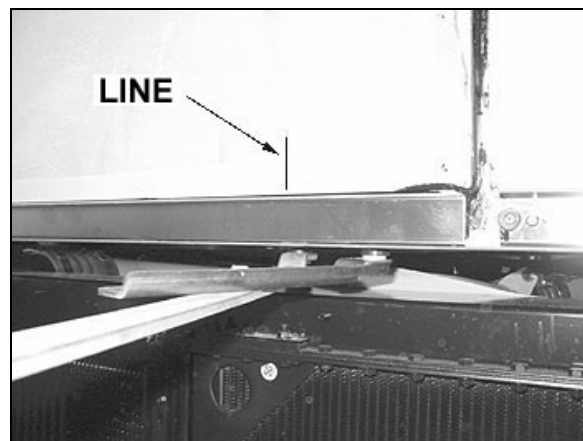
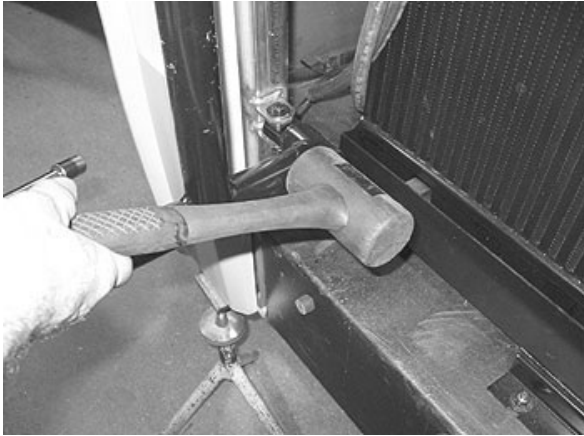

FIGURE 83: REFERENCE LINE
FIGURE 84: PANTOGRAPH ARM ADJUSTMENT
2. Using a rubber mallet, adjust the lower part of pantograph arm in order to get 4 ± 1 mm between lateral panel and engine door (Refer to Figure 83 and Figure 84).